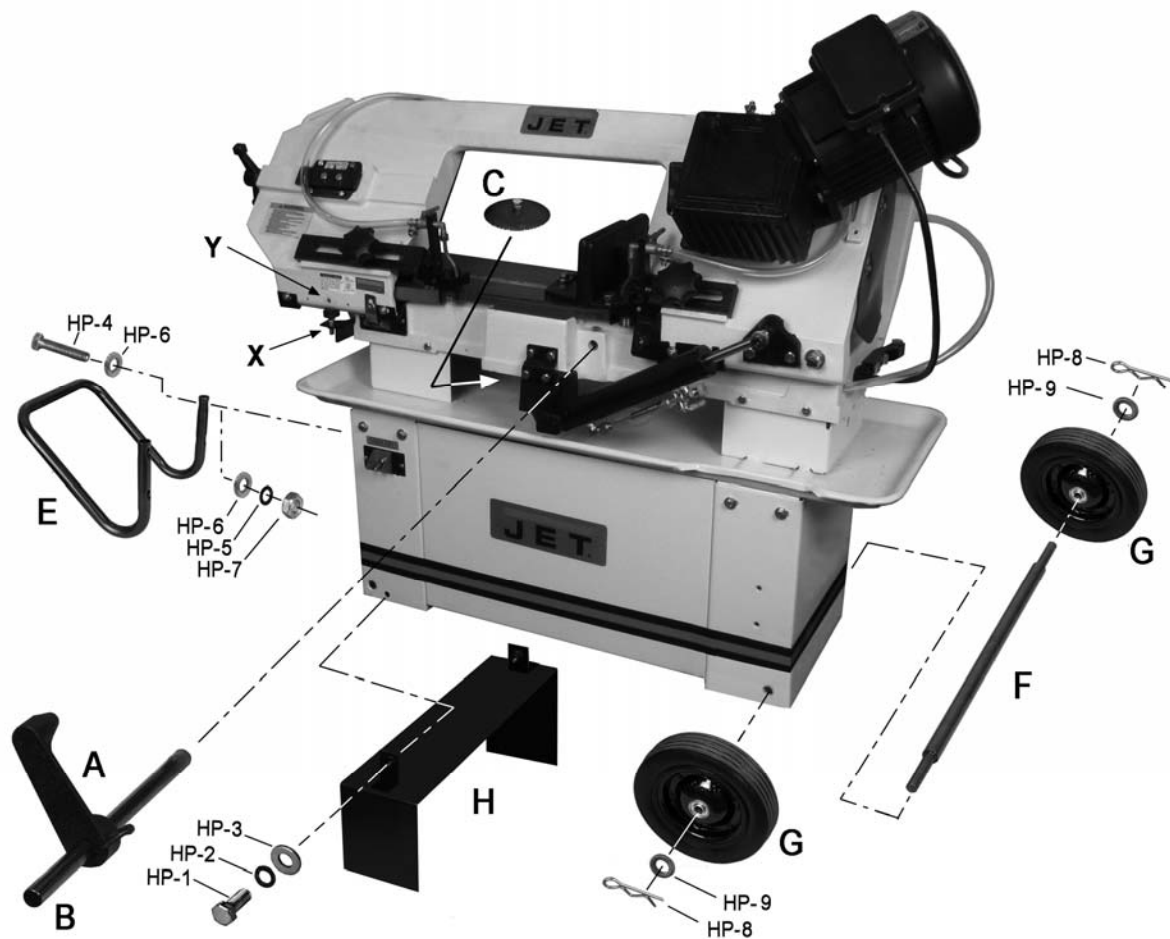

Figure 4
Refer to Figure 4.
3. Use blocking beneath saw, and install foot stand (H). Secure with four screws and washers (HP-1/2/3).
5. Slide workstop rod (B) into hole on saw base and slide workstop (A) onto rod. (NOTE: Do not insert rod too far so that it hits the vise leadscrew).
6. Install handle (E), and place filter screen (C) over coolant drain hole in pan.
7. Remove stop bolt (X, Figure 4) and remove shipping bracket (Y). Retain bracket in case you must transport the machine in the future. **Reinstall stop bolt.**